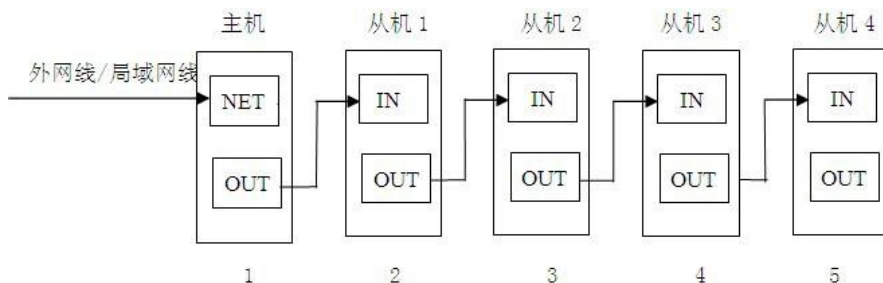

Fig. 3-7-1
a) As shown in the serial cascade connection diagram, connect one end of the cascade connection line to the host RS485 interface, one end to the RS485 interface of the slave, and then use a cascade connection line from the RS485 interface of the current slave to connect the RS485 of the next slave interface, connect each slave in turn, cascade 24 devices, as shown in Figure 3-7-1 above;